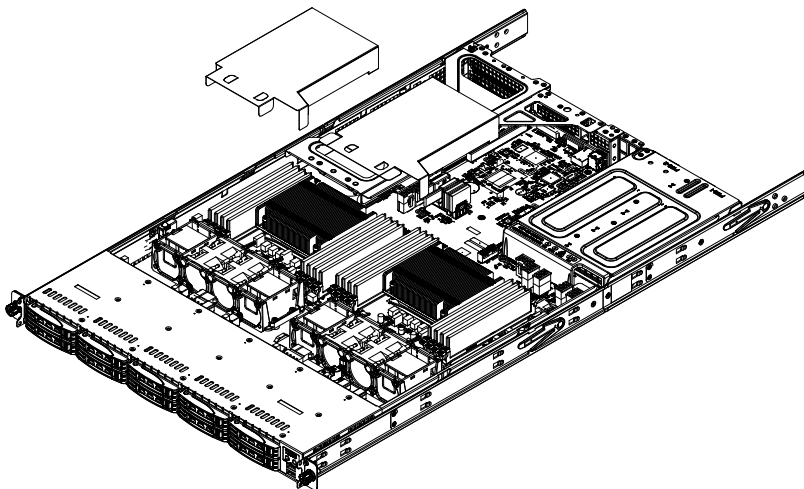

Figure 6-10. Installing the Air Shroud
1. Position the air shroud in the chassis as illustrated in Figure 6-10.